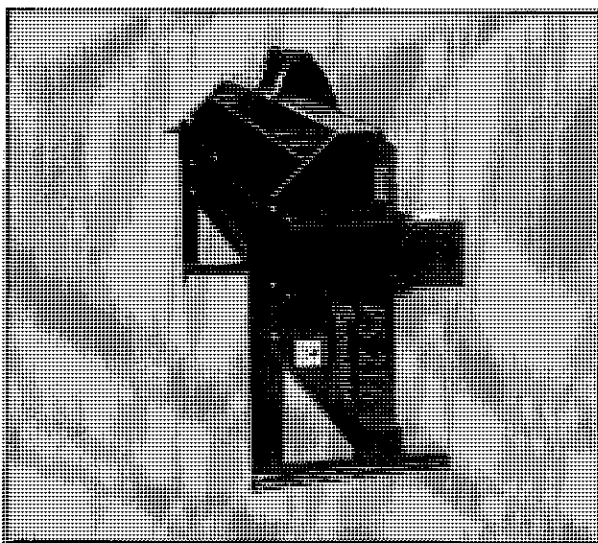

Figure 4. Shipping Stands.
Install rollers and front-gauge wheels while preseed is on shipping stands (P/N 384960 to 384970) **Figure 4**.
* Leave machine on shipping stands when installing front gauge wheels and blades if available Figure 4.